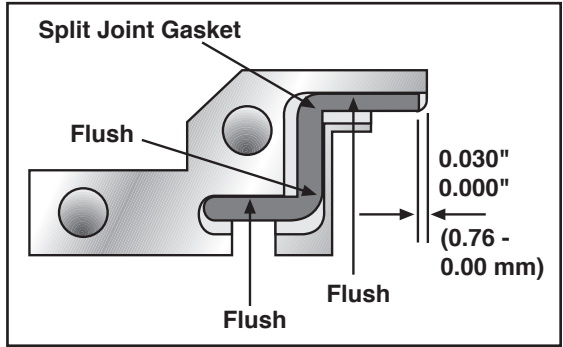
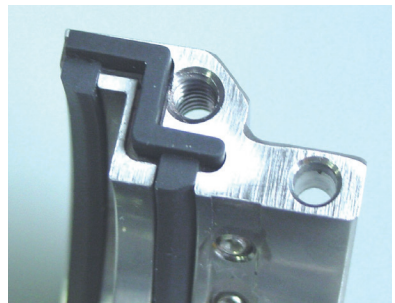

Figure 4
Figure 14
The split joint gaskets should be positioned flush with the groove surfaces indicated in Figure 4. The gasket end should be flush to 0.030 inch (0.76 mm) shorter than the groove as shown.
- 4.4 Place the split joint gasket in the groove and position it as shown in Figure 4. Hold it in place for 10 seconds. See Figure 14.